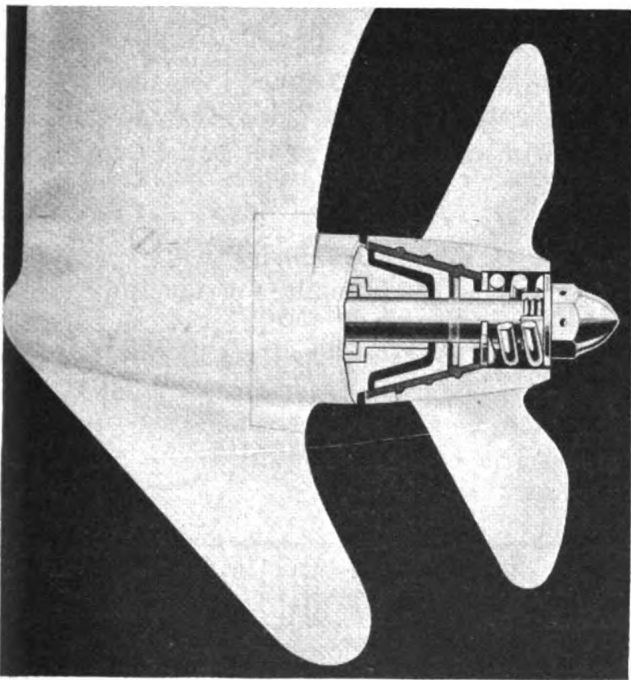

Figure 10. Propeller protection clutch.
b. The propeller protection clutch on the Zephyr consists of a cone fastened to the propeller shaft by a shear pin and a conical hub integral with the propeller wheel (fig. 10). When an underwater obstruction is struck, the propeller slips on the cone and reengages after passing over the obstruction. Spring pressure holds the propeller in engagement on the cone. (If the engine has not been used for some time, the propeller may have become stuck to the cone through oxidation. If so, set the engine on a rack, hold the flywheel rigid, and turn the propeller, jarring the blades loose from the cone.)